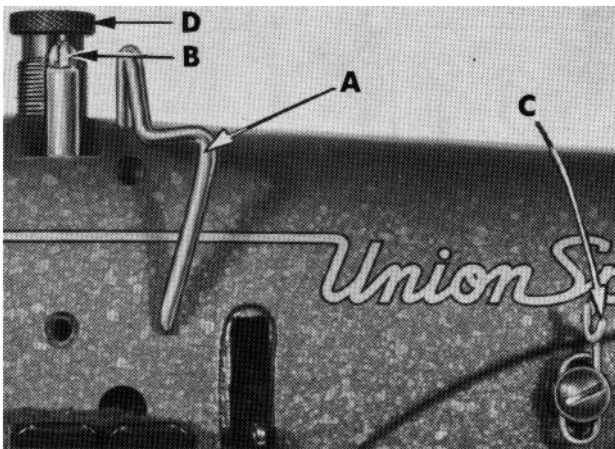

Fig. 13
Set the needle thread take-up wire (A, Fig. 13) so that its upper surface is even with the top of the hole in the needle bar thread eyelet (B) when the needle bar is at the bottom of its stroke. Lower this setting for a smaller needle thread loop or raise it for a larger loop.
Set the needle thread frame eyelet (C, Fig. 13) perpendicular to the machine base and 1/4" above the mounting screw. Lower if more needle thread is desired in the stitch or raise for less.
Regulate the presser spring regulating screw (D, Fig. 13) so that it exerts only enough pressure on the presser foot to feed the work uniformly when a slight tension is placed on the fabric. Turning it clockwise increases the pressure, counter-clockwise acts the reverse.